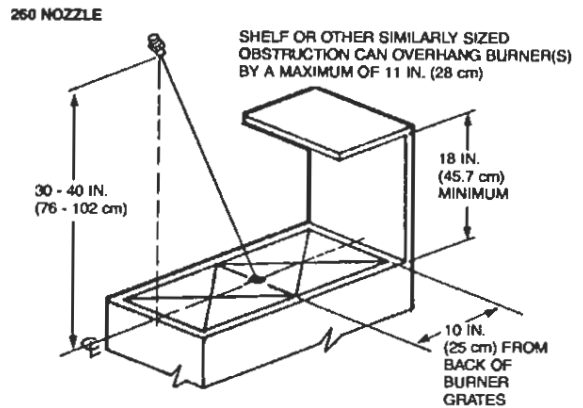

FIGURE 38
- ▶ When using the 260 nozzle for range protection with or without back shelf or other similarly sized obstruction, the maximum length of burner grates being protected must not exceed 32 in. (81 cm) and the maximum area of the burner grates must not exceed 384 in.² (2477 cm²). Nozzle must be located on the front edge of the burner grates and aimed at a point 10 in. (25 cm) from the back edge of the burner grates. Nozzle must be mounted 30 to 40 in. (76 to 102 cm) above the hazard surface. See Figure 38.